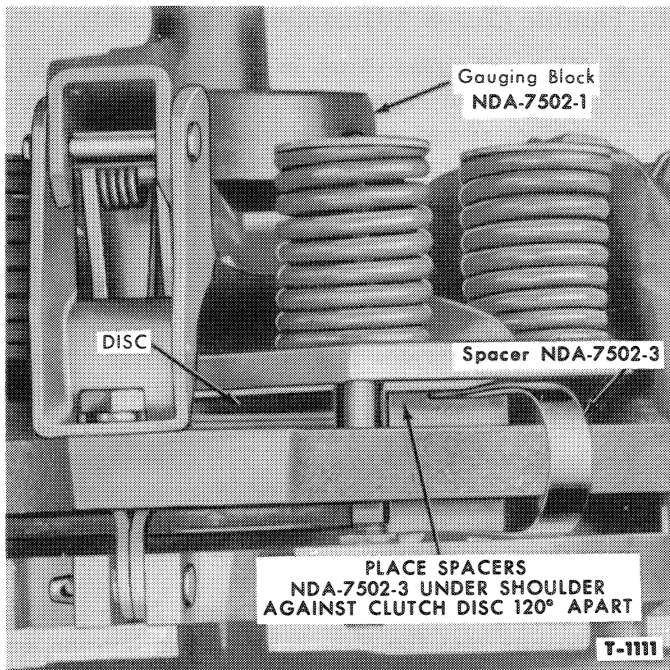

Figure 12—Adjusting Block Installed in Fixture
2. The narrow spacer block marked TOP must be placed between the center drive plate and the machined surface of the P.T.O. pressure plate. The lower spacer block must be placed between the machined surface of the transmission plate and the center drive plate. The spacers must be positioned 120° apart and inserted until the blocks touch the clutch discs, as shown in Figure 12.